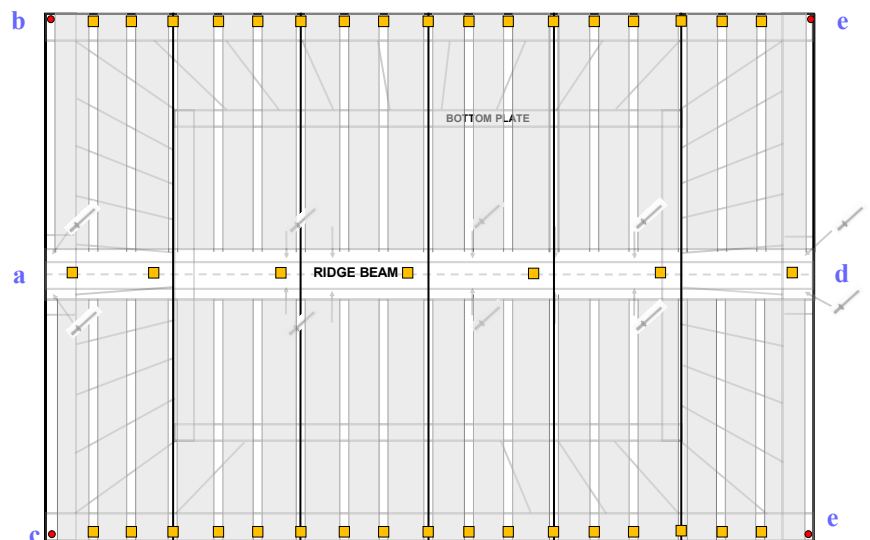

fig.2
- Rivet the 2 Ridge Caps together using 4 x rivets, so total flashing is 3.050m long. Rivet the Ridge Cap to the centre of the roof using 10 x rivets as shown (fig.2).